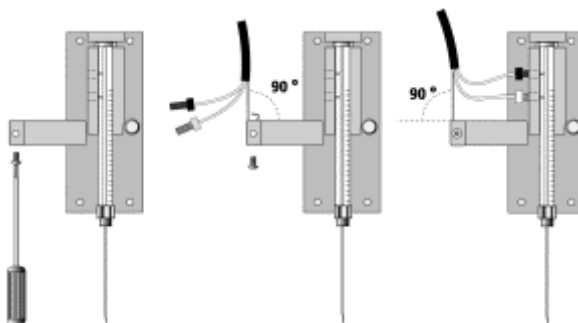

Figure 4-8 Removing the Transfer Tubing Kit at the Sideport Syringe Side
5. Remove the transfer tubing kit (Figure 4-8).